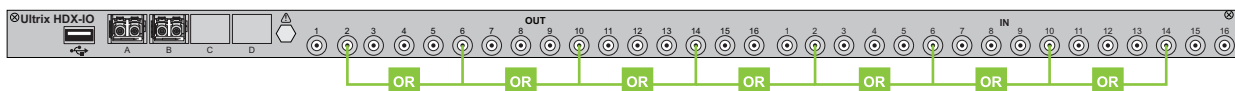

Figure 44 Example of UltraProc 6Gbps or 12Gbps Mapping on a Single ULTRIX-HDX-IO Blade
**Figure 44** illustrates the connections allocated for UltraProc on the ULTRIX-HDX-IO blade for data rates up to 6Gbps and 12Gbps.